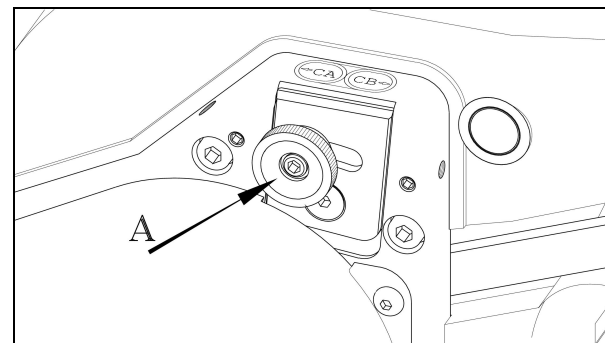

Fig 3
2. Refer to Fig 3. Loosen screw (A) and move back to the CA position. Tighten the screw.